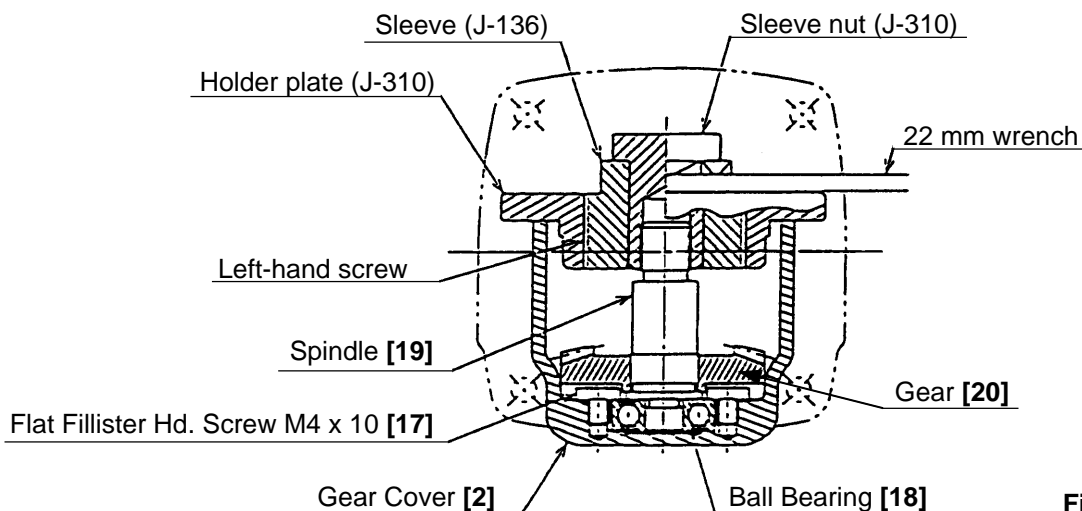

Fig. 4
(2) Disassembly of the spindle section
- (d) Use the J-310 tool for disassembly of the Spindle [19] because the Spindle [19] is press-fitted to the Ball Bearing [18] which is secured to the Gear Cover [2] with the two Flat Fillister Hd. Screws M4 x 10 [17]. Set up the J-310 tool as shown in Fig. 4 and then pull out the Spindle [19] by turning the sleeve clockwise with a wrench.